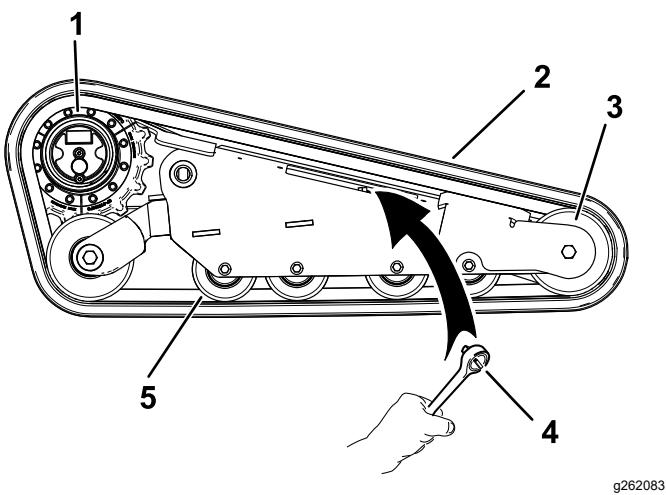

Figure 67
7. Using a 1/2-inch drive ratchet, release the drive tension by turning the tensioning screw clockwise (Figure 65 and Figure 67).
1. Wrap the new track around the front wheel (Figure 67).
2. Push the track under and between the road wheels and wrap it around the rear tension wheel (Figure 67).